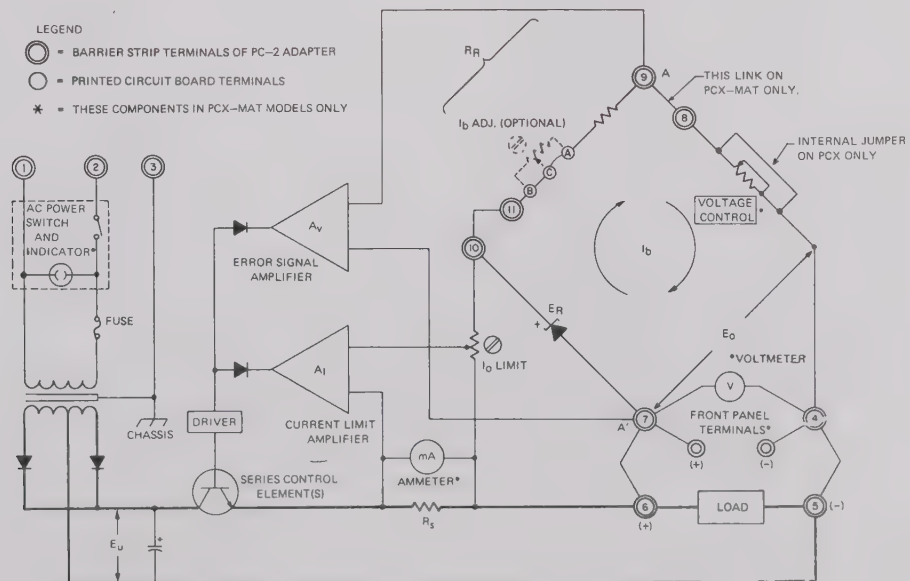

FIG. 4-1 PCX AND PCX-MAT POWER SUPPLY MODULE FEEDBACK REGULATOR SYSTEM (SIMPLIFIED SCHEMATIC)
4-2 This section contains the power supply circuit analysis. The operational theory, as far as it concerns remote programming, and the derivation of the transfer function **were** treated in Section III. The simplified diagram (FIG. 4-1) and the main schematic (FIG. 6-1) should be used to illustrate the contents of these paragraphs. References given in CAPITAL LETTERS refer to the nomenclature used in FIG. 4-1.
- e) The COMPARISON BRIDGE: This four-arm electrical bridge circuit is the regulating and controlling element in many KEPCO Power Supplies. In the PCX and PCX-MAT Model it consists of CR18 (E_r), R26 (R_r), the output voltage (E_o), and the voltage control resistance (R_{VC}). As shown in FIG. 4-1, a reference voltage (E_r) in series with the reference resistance (R_r) is continuously compared with the output voltage, (E_o) in series with the voltage control resistance, R_{VC} . At balance, a constant bridge current (I_b) is flowing through the bridge, keeping the error signal at bridge terminals (A) and (A') at approximately zero volts. Any deviation from the set output voltage will tend to change I_b in the sensing half of the bridge and thereby produce an error signal at the bridge terminals (A) and (A'). This error signal is then amplified and acts as a control signal for the series regulator transistor, changing the voltage drop across it in such a way as to compensate for the change in output voltage.